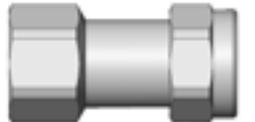

Figure 2-6. Example of Nozzle Stamped with Nozzle Type and Kidde/RG
- Body is stamped with nozzle type and Kidde/RG as shown in Figure 2-6.